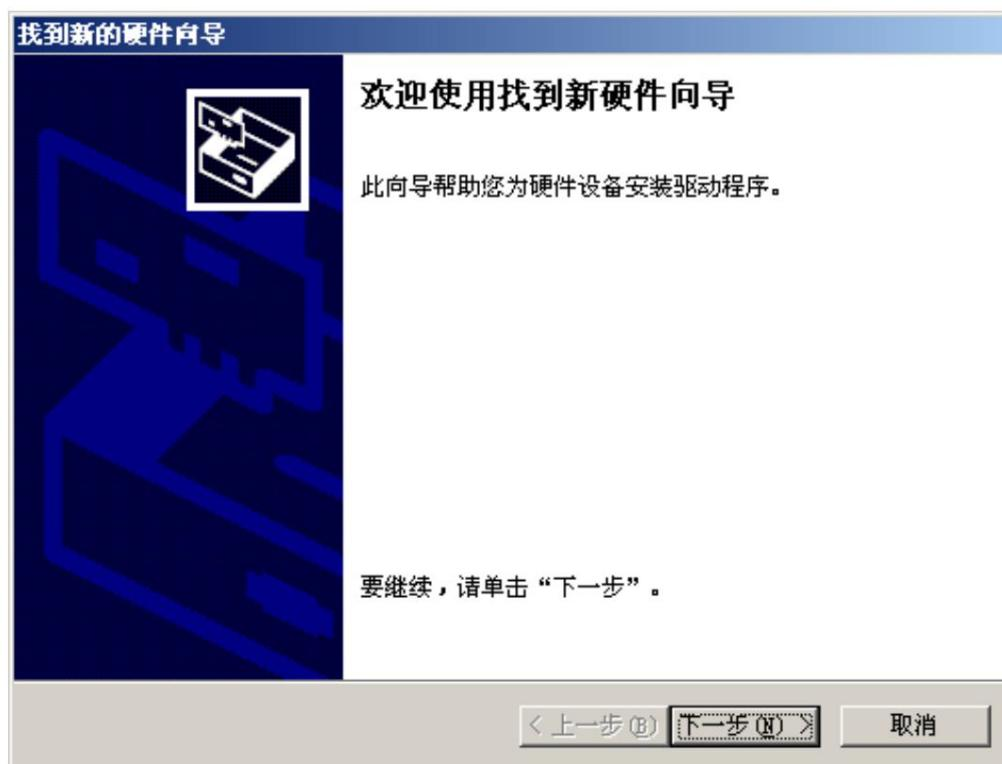

Figure 5-1 Windows2000 operating system installation wizard
2. When entering Windows 2000, the new hardware installation wizard shown in Figure 5-1 will pop up, install the DMC5400